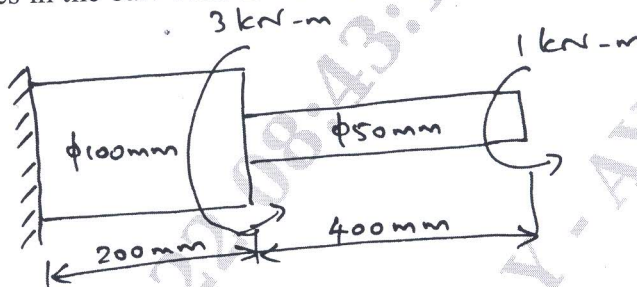

Fig Q6(b)
- b. A solid stepped bar of circular cross section shown in Fig Q6(b) is subjected to a torque of 1kN-m at its free end and a torque of 3kN-m at its change in C/S. Determine the angle of twist and shear stresses in the bar. Take  $E = 2 \times 10^5 \text{ N/mm}^2$  and  $G = 7 \times 10^4 \text{ N/mm}^2$ .